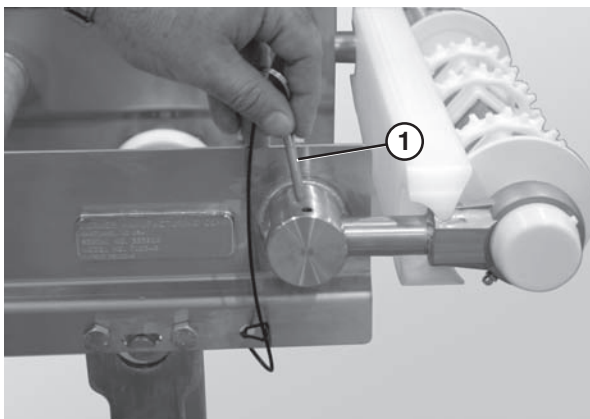

Figure 71
6. Remove the pull pin (**Figure 71, item 1**).
1. Remove the pull pins (**Figure 71, item 1**).